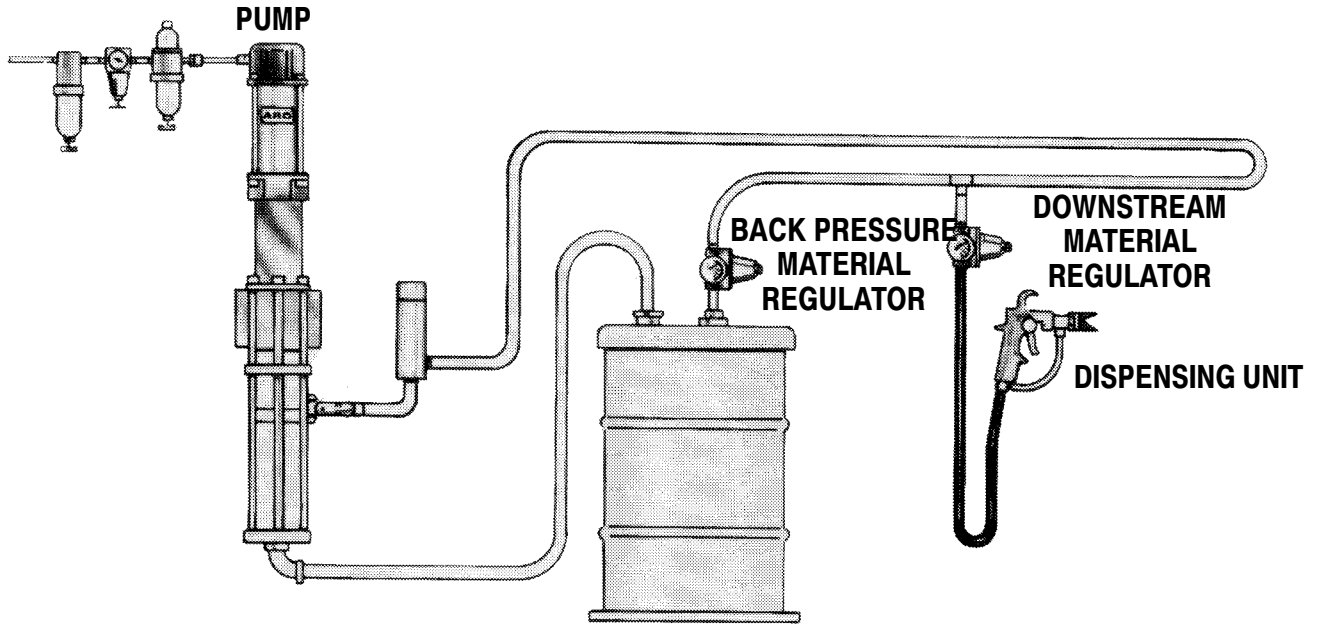

FIGURE 1
- Place the ARO Stainless Steel Material Regulator (down-stream or back pressure) in the material line as shown in Figure 1.